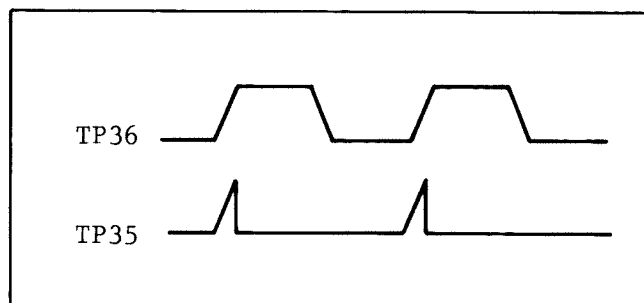

Fig. 2-4-4. DRUM FREE RUN
4. Adjust VR15 (CYL F RUN) so that the two waveforms are locked, as shown in Fig. 2-4-4.